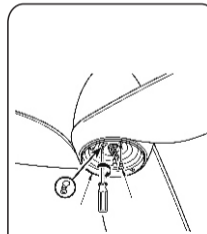

Fig.22
Step 3: Align the round hole of the light kit plate with light kit adapter, tighten all 3 screws.(Fig. 22)